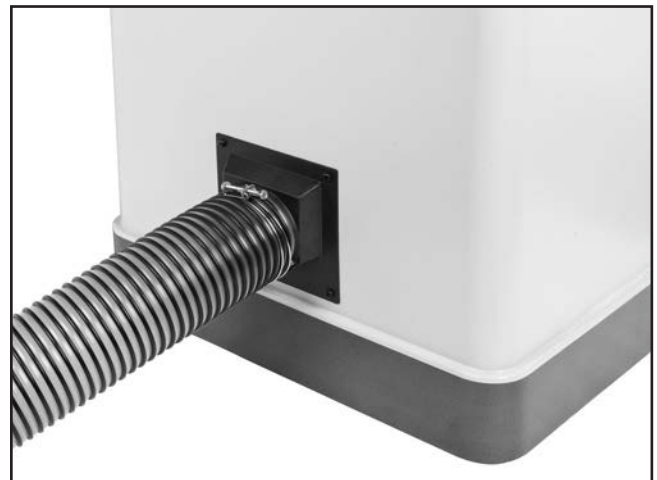

Figure 34. Example of dust hose attached to dust port.
1. Fit 4" dust hose over dust port, as shown in **Figure 34**, and secure in place with a hose clamp.